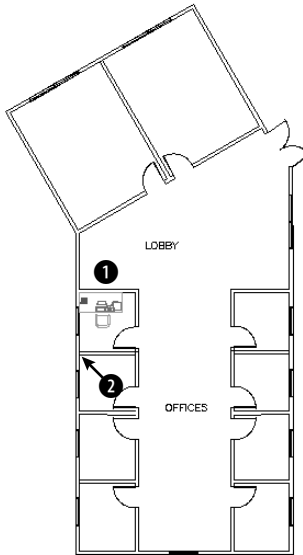

Figure 18-29: The office plan.
5.  Choose Paste from the Standard toolbar. At the Specify insertion point: prompt, pick ❶ in Figure 18-29. This action inserts the armchair in the lobby using the default scale and rotation.
10. Use Zoom Window to zoom in to the area around ❷ in Figure 18-29. At the prompt, pick ❷.